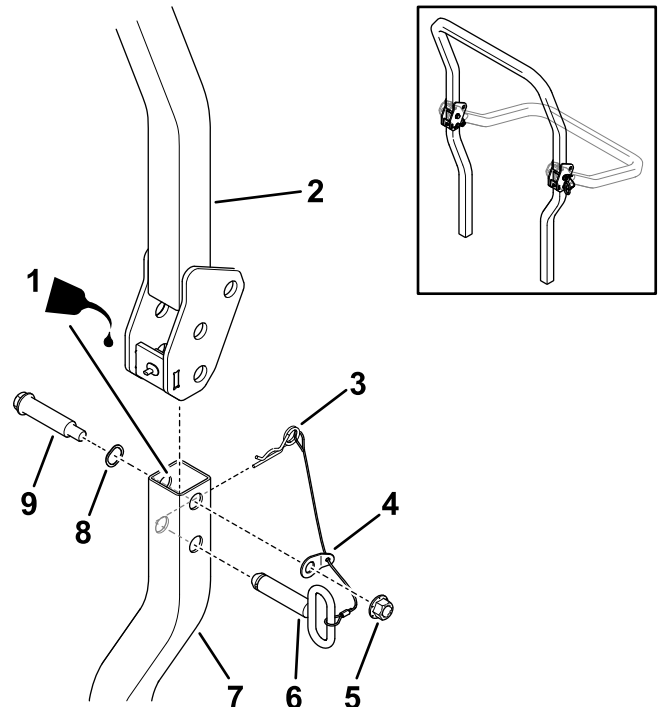

Figure 12
- 5. Lightly oil the inside surfaces of the lower roll bar tubes (Figure 12).
- 6. Loosely install the upper roll bar to the lower roll bar using 2 shoulder bolts, 2 wave washers, 2 washer tabs attached to lanyards, and 2 locknuts (1/2 inch) as shown in Figure 12.
- 8. Raise the upper roll bar into the upright position, install the latch pins (the oval handles must be on the outside of the machine), and secure with hairpin cotters on each side (Figure 12).